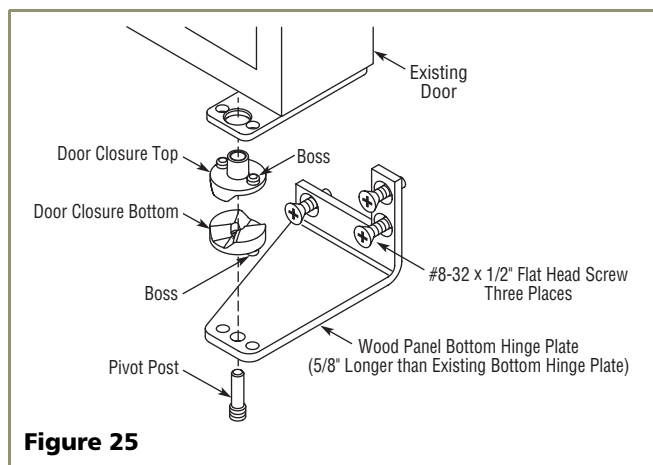

Figure 25
- Replace the door closure assembly onto the bottom pivot post (see **Figure 25**). Be sure that bosses align with holes in hinge and hinge plate.